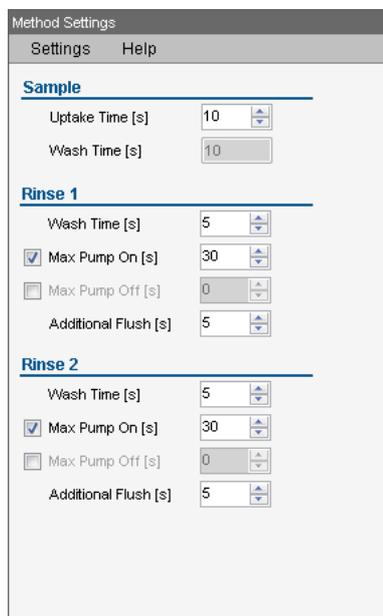

Figure 14-8. ESI autosampler Analysis Settings
6. Select **Settings > Analysis**, see Figure 14-8.
- a. With **Continue Washing**, set the **Rinse 1** and **Rinse 2** parameters as shown in Figure 14-8. When selected, after analysis completed the probe moves to the rinse vial and cleans for the specified time.